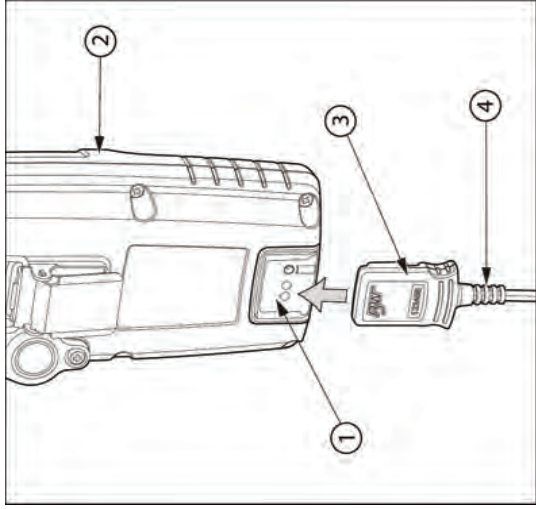

Figure 8. Connecting the Charger Adapter
To charge the battery, refer to Figure 8, Table 10, and the following procedures:
3. Attach the charging adapter (Figure 8.) to the charger interface.